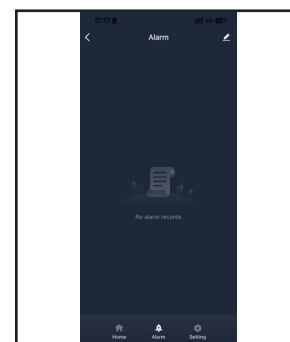

Figure 7
2. The "Alarm" page displays the equipment's fault codes. For specific fault code information, please refer to the instruction manual. (See Figure 7)